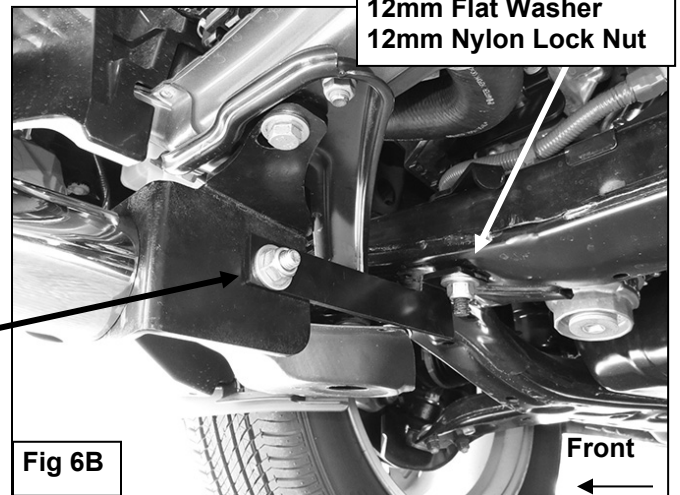
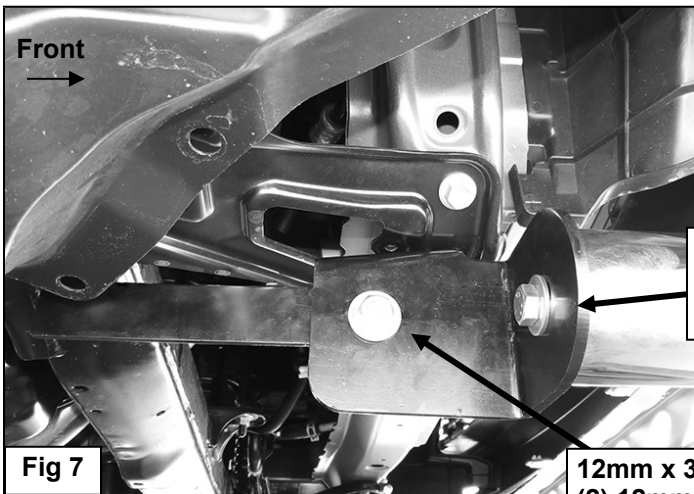
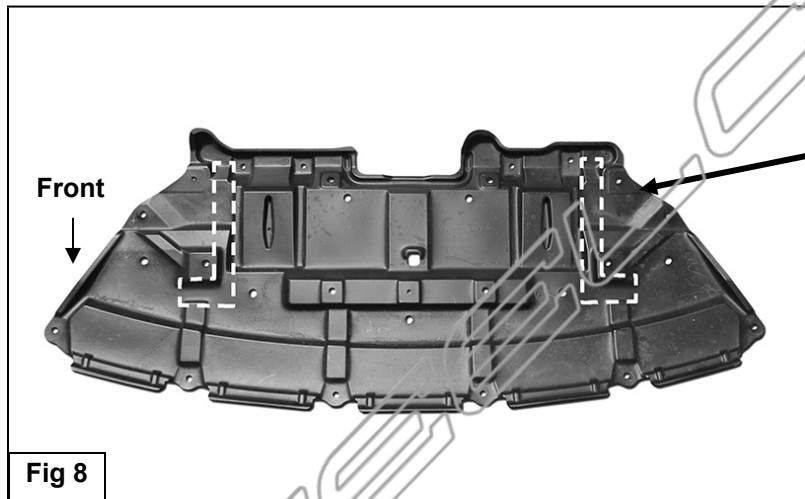

Fig 6B
Fig 7
Fig 8
- Select the passenger side Support Bracket, **(Figure 6A)**. Attach the end with the bent tab to the Bolt Plate, (see **Step 4**), with the included (1) 12mm x 32mm STD Flat Washer and (1) 12mm Nylon Lock Nut, **(Figure 6B)**. Attach the flat end of the Support Bracket to the inside of the Mounting Bracket using the included (1) 12mm x 30mm Hex Bolt, (2) 12mm Flat Washers and (1) 12mm Nylon Lock Nut, **(Figure 7)**. Do not tighten hardware at this time. .
- With assistance, position the Bull Bar up to the Mounting Brackets. Attach the Bull Bar to the Mounting Brackets using the included (2) 12mm x 45mm Hex Bolts, (2) 12mm Lock Washers and (2) 12mm Flat Washers, **(Figure 7)**.
- Level and adjust the Bull Bar properly and tighten the (2) 10mm Hex Bolts attaching the Mounting Brackets to the crossmember only at this time. Temporarily remove the Bull Bar and Support Brackets.
- Hold the factory plastic splash guard up in its original mounting position and trace the location of the (2) Mounting Brackets and the (2) Bolt Plates onto the inside of the splash guard, **(Figure 8)**. Use a sharp knife or hacksaw blade to cut out the traced area for the Mounting Brackets. **IMPORTANT:** To maintain